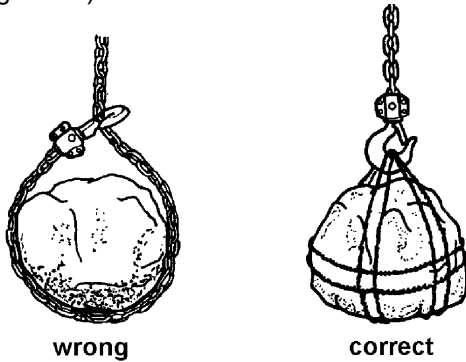

Figure 11
- When lifting loads, hook the load with slings. Do not use the lever hoist chain as a sling, (Figure 11).